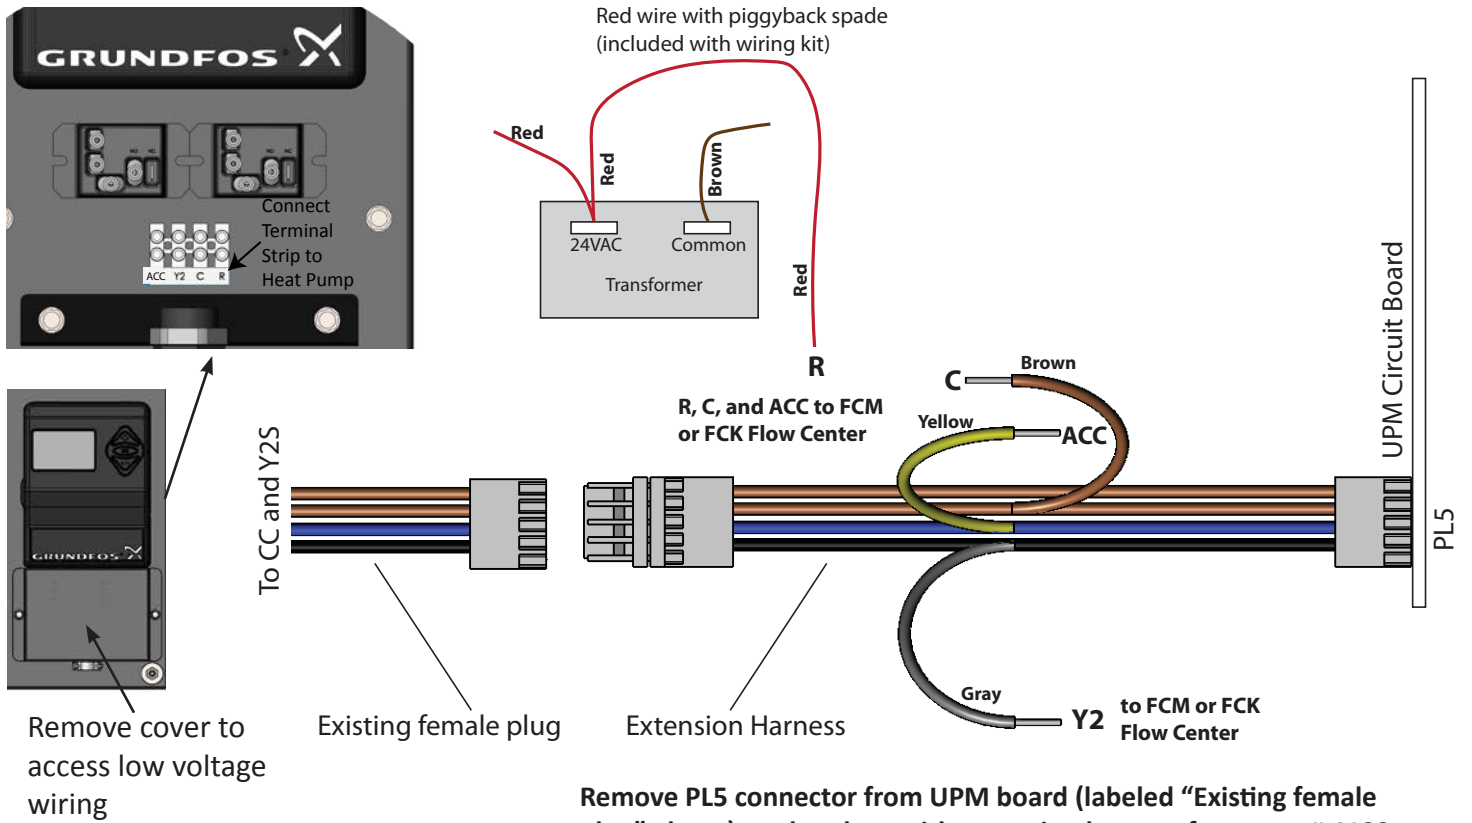

Figure 3: Low Voltage Wiring at Heat Pump (Communicating Controls)
4. Wire LOW VOLTAGE CONNECTIONS (heat pumps with communicating UPM board only). Remove connector PL5 from the UPM board (see Figure 3 and Table 1). Replace with wiring harness extension from kit, and re-attach original PL5 connector to the other end (male pins) of the extension. Disconnect red wire from secondary side of transformer (see Figure 3). Replace with red wire from kit (piggy-back end), and re-attach original red wire to the piggy-back terminal. Use stripped end of the red wire to connect to terminal R at the flow center.
IMPORTANT: Step #4 is for units with communicating UPM. If heat pump has non-communicating UPM, use kit with brown wire (piggy-back spade connector on one end). DO NOT use wiring harness in Figure 3.
IMPORTANT: Figure 3 and Table 1 are for heat pumps with communicating UPM board only. If heat pump has non-communicating UPM board, use kit with brown wire (piggy-back spade connector on one end). DO NOT use wiring harness in Figure 3.
ACC	Yellow wire in P5 extension harness (Figure 3)
Y2	Gray wire in P5 extension harness (Figure 3)
C	Brown wire in P5 extension harness (Figure 3)
R	Red wire with piggyback spade, connected at transformer terminal (Figure 3)